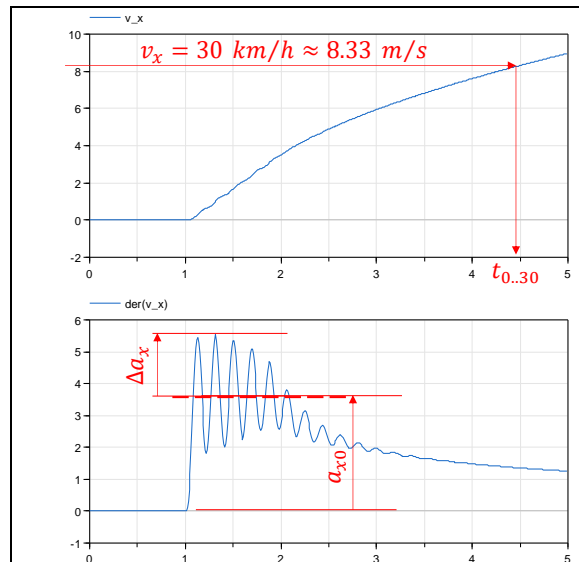

Figure 1-4: Definition of function measures
- Here are relevant **function measures**, connected to the manoeuvre. See also Figure 1-4: